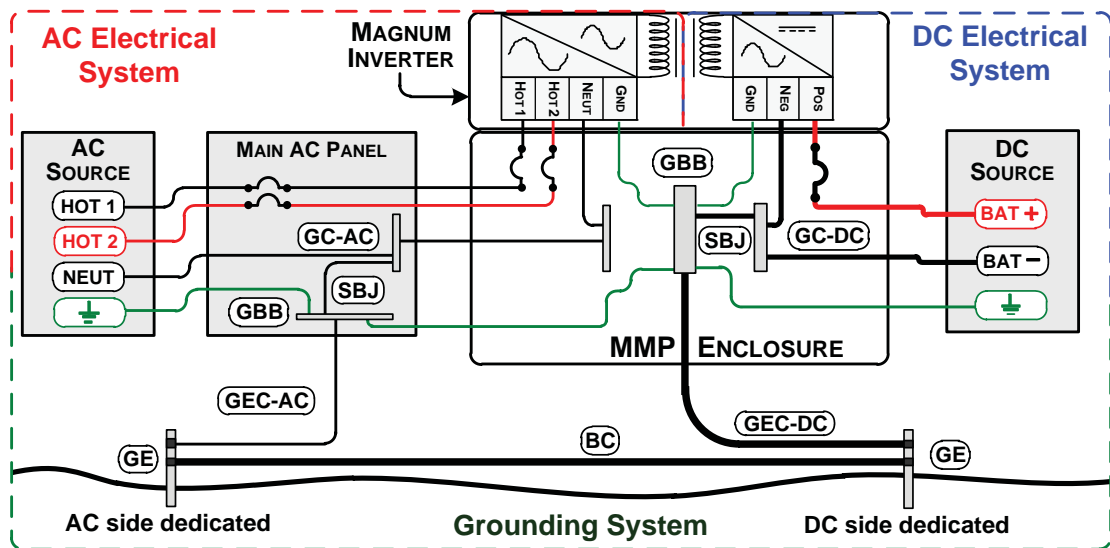

Figure 2-21, Multiple Connections to DC Ground Rod (Method 3)
3. **Multiple Connections to Ground – Multiple Electrodes (Method 3):** This method uses a separate grounding electrode for the DC system and the AC system (see Figure 2-21). In this method—since there are multiple connections to the DC Grounding Electrode (GEC-DC)—the size of the DC grounding electrode conductor cannot be smaller than the largest conductor in the DC system (usually the battery-to-inverter cable).